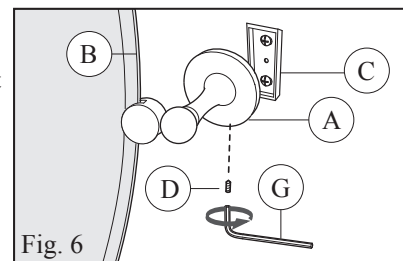

Fig. 6
9. Secure the end piece (A) with Allen wrench (G) and set screw. (D) (Fig. 6)